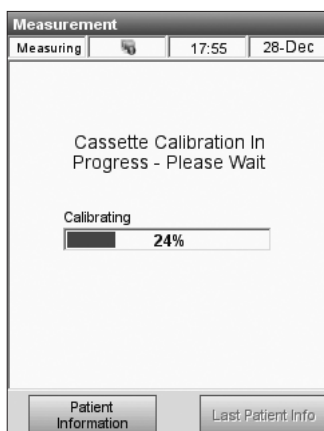

Fig. 5-9 Cassette Calibration
7. The system will now check the integrity of the cassette and then calibrate (Fig. 5-9). For more information about calibration, please refer to Chapter 4 “Calibration and Quality Control”.